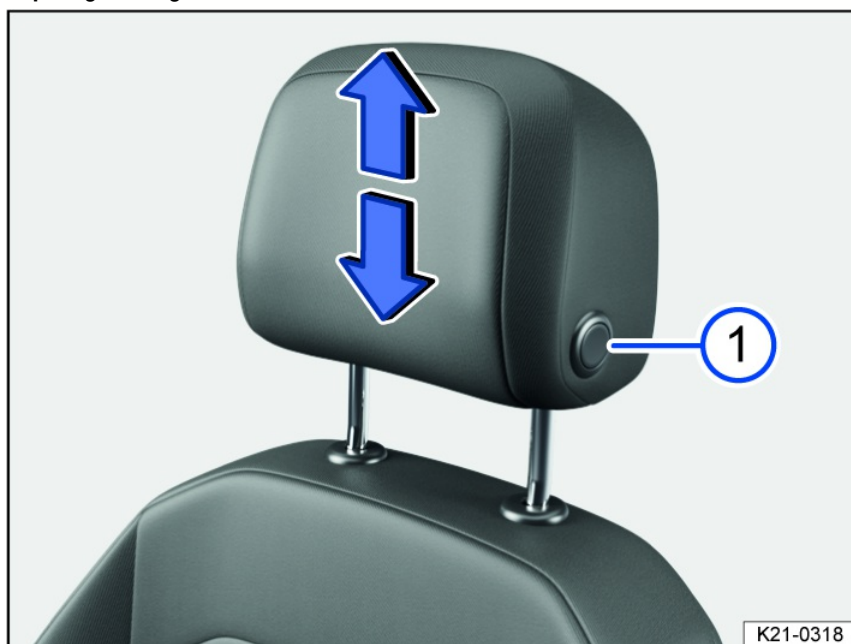

Fig. 71 Adjusting the front head restraint (general example).
1. If necessary, slide the head restraint upward or downward in the direction of the arrow and when pressing the fig. 71 button.